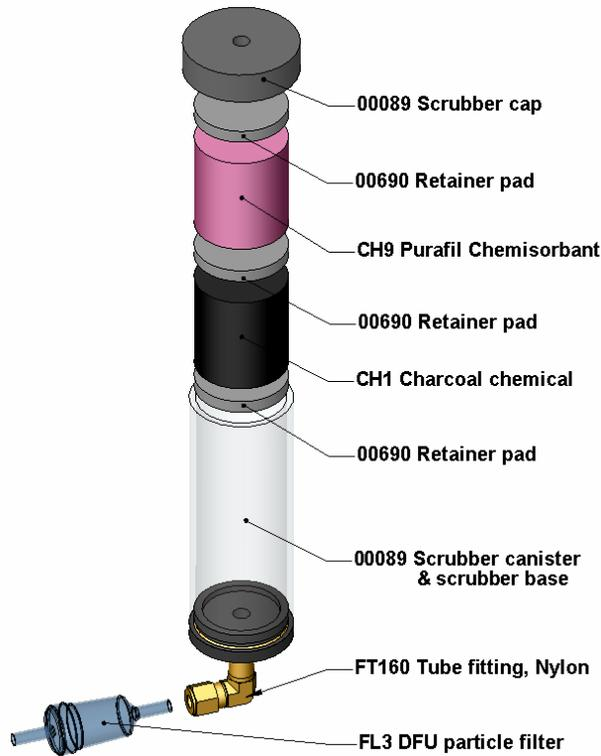

Figure 9-4: Zero Air Scrubber Assembly
A similar procedure applies to the same *DFU* particle filter that is used in the optional IZS zero air scrubber assembly (Figure 9-4). To change this filter, simply disconnect the tube and fitting from one end and remove the filter from the scrubber cartridge. Insert a new filter and attach the tubing. Make sure that the embedded small arrow points in flow direction.
- Locate the scrubber on the outside rear panel. Figure 3-7 shows the location, Figure 9-4 the exploded assembly.
- Refill the scrubber with charcoal at the bottom and the Purafil[®] chemical at the top and use three, white retainer pads to separate the chemicals as shown in Figure 9-4.